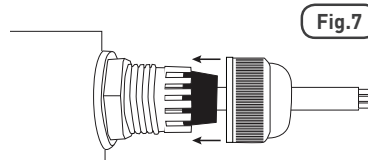

Fig.7
- The AC cable should then be routed through the cable gland as shown in (Fig.7).
- Finally, gently tighten up the nut against the gland body, to ensure the wire is secured in place by the sealing gland (Fig.7).